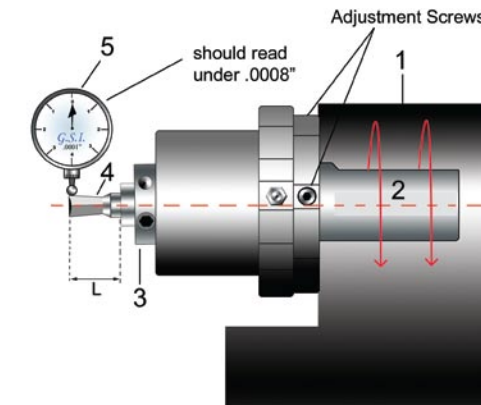

FIG 3
(2) in the preset fixture (1) to obtain a max. TIR of .0008". (Notice the oscillation of the gage pin as it rotates with the holder). Adjust the position using the four adjusting screws, and upon completion clamp the head tight with the clamping screws. Check again after clamping (see fig. 3).